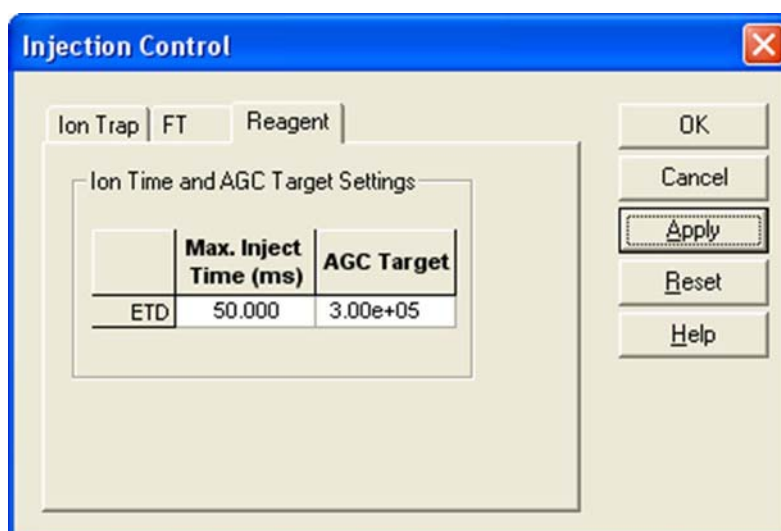

Figure 7-26. Injection Control dialog box—Reagent page
3. Click the Reagent tab to display the Reagent page. See Figure 7-26.